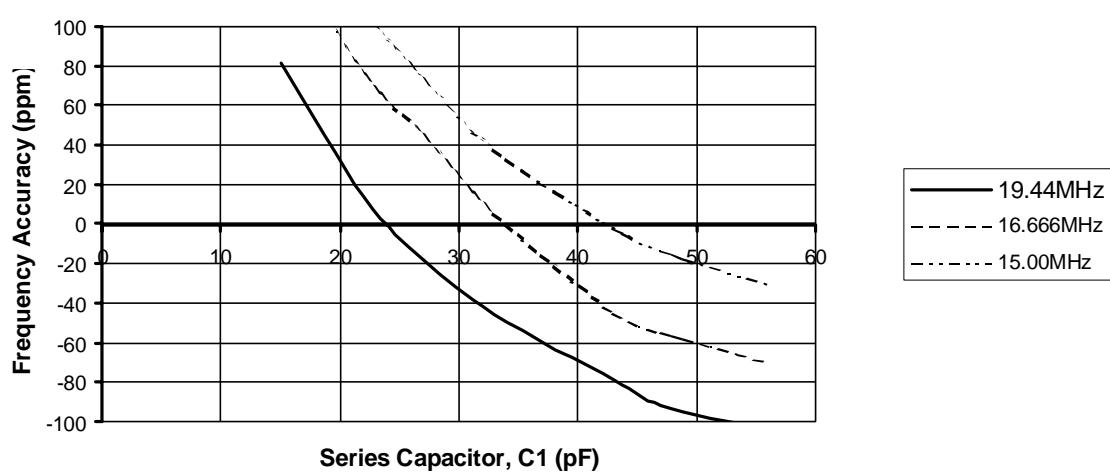

FIGURE 10 - FREQUENCY ACCURACY FOR PARALLEL CRYSTAL USING SERIES CAPACITOR  $C_1$
*Figure 10* shows frequency accuracy versus series capacitance for 19.44MHz, 16.666MHz and 15MHz crystals. As seen from this figure, a 24pF, 33pF and 43pF series capacitor is used to achieve the lowest ppm error for 19.44MHz, 16.666MHz and 15MHz respectively.